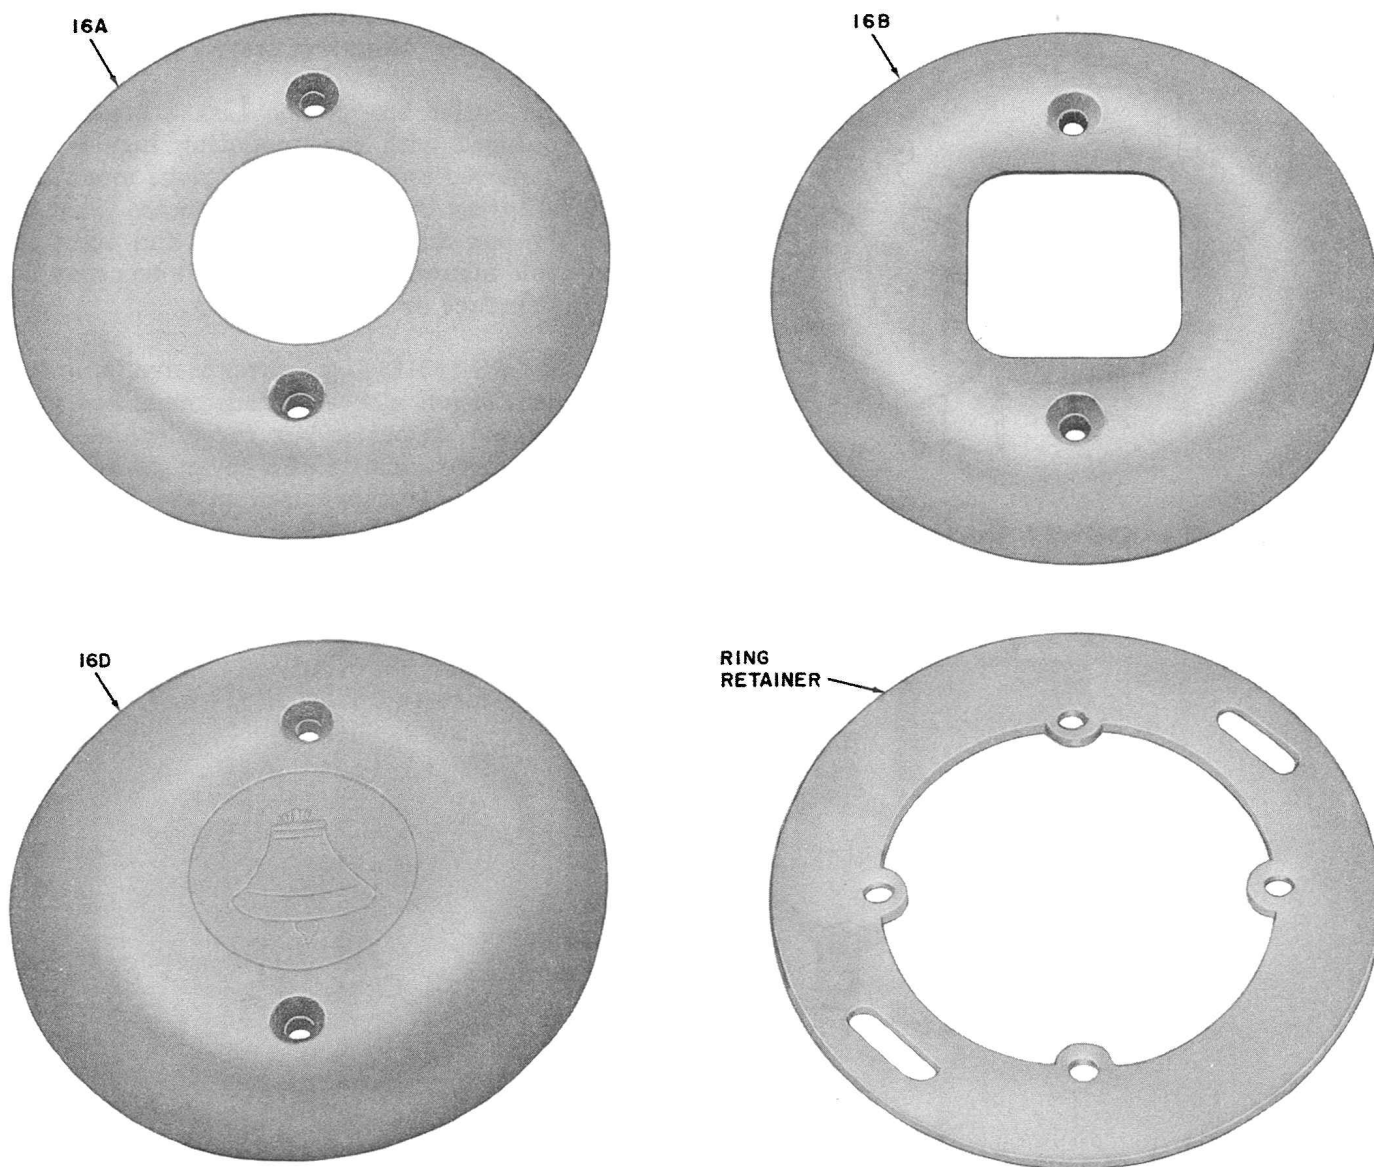

Fig. 26 — 16-Type Faceplate
3.03 The 16-type faceplate (Fig. 26) consists of a colored plastic plate arranged for a jack or a connecting block and a metal ring which is arranged for mounting to a 63A bracket. Six screws are provided for mounting the metal ring to a jack or connecting block; attaching the ring to the 63A bracket, and for mounting the faceplate to the metal ring. The 16D faceplate has the Bell System emblem embossed in the center and is used to cover openings at unused 63A brackets. The 16-type faceplate is available in colors to match jacks with which it is used. The 16-type faceplate may also be used with the KS-19407, List 1 bracket, in which case the metal ring is not required.